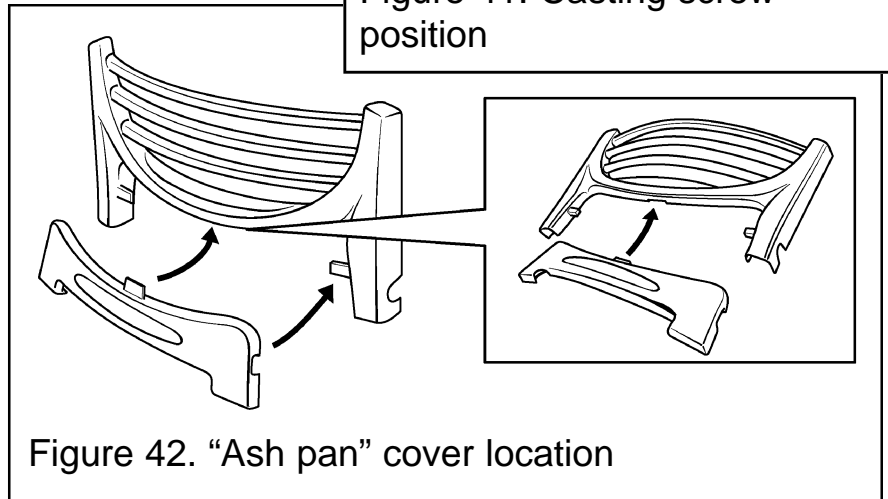

Figure 42. "Ash pan" cover location
14.5 Fit the "ash pan" cover below the front casting locating it as shown in figure 42.